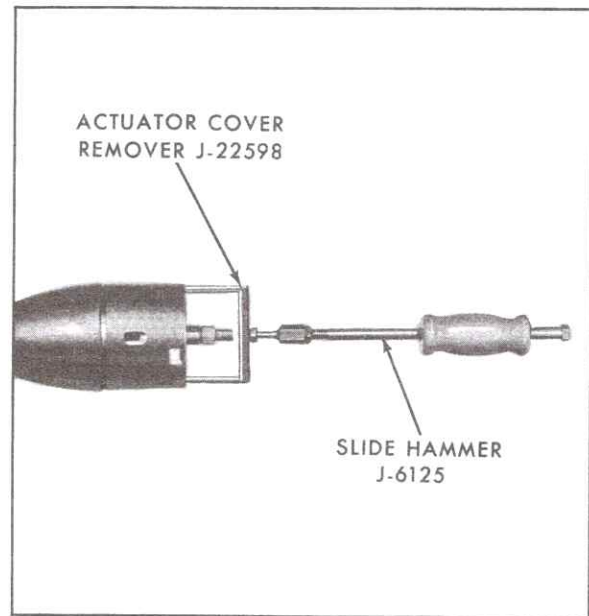

Fig. 9-49 Removing Actuator Cover
8. Remove actuator cover using Actuator Cover Remover, J-22598, and Slide Hammer, J-6125, Fig. 9-49. Carefully drive outward with slide hammer to remove cover.